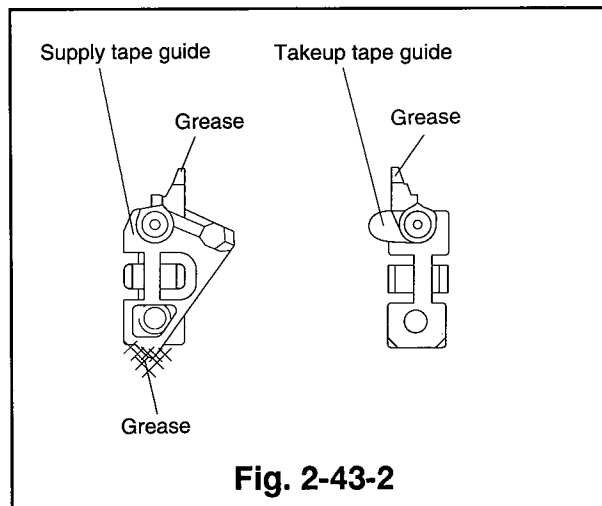

Fig. 2-43-2
- ① Apply grease (PG-641)[859D055O30] to the area shown in Fig. 2-43-2 of the supply tape guide assembly.